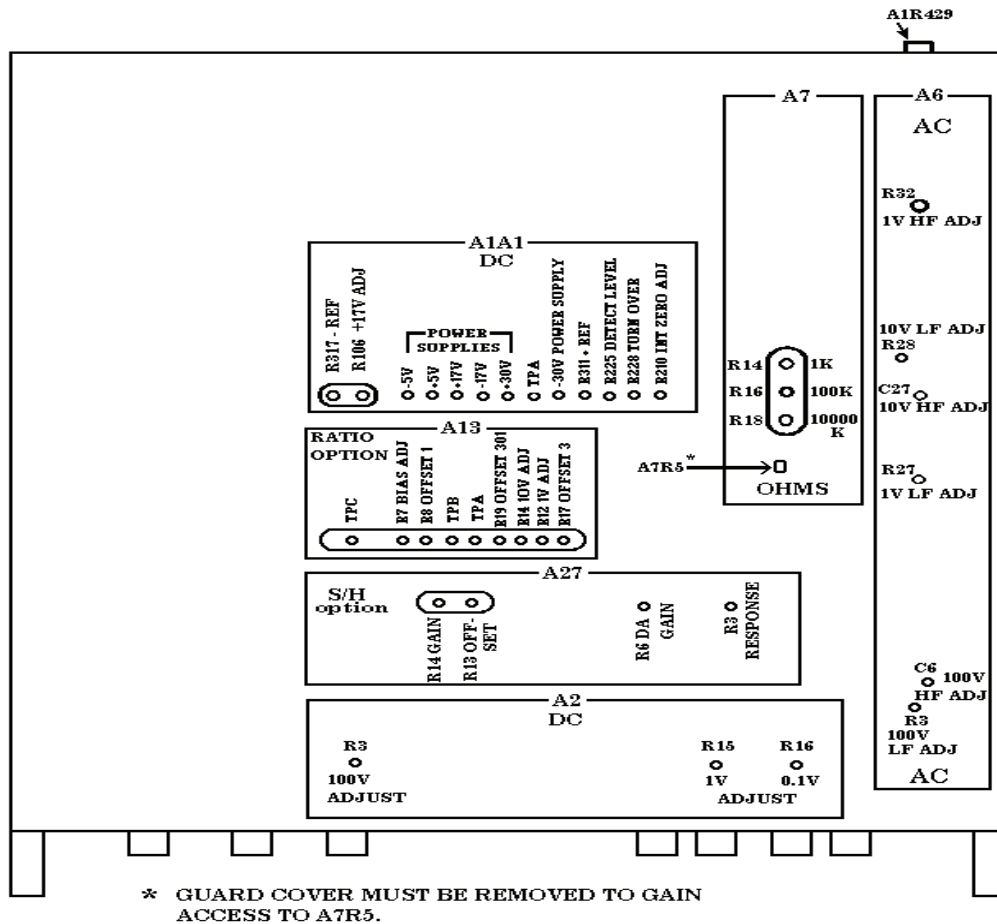

Figure 1. Top interior view - adjustment locations.
- d. Position TI controls as listed in (1) through (3) below:
- (1) **FUNCTION** switch to **DC**.
- (2) **RANGE** switch to **.1 V**.
- (3) Connect shorting link between **GUARD** and **LOW INPUT**.
- e. Short **INPUT** terminals. If necessary, adjust A1R429 (rear of TI) (fig. 1) for a  $0 \pm 0.000002$  indication. Remove short.
- (1) Connect multimeter between A1A1TPA (fig. 1) and **INPUT LOW** terminal.
- (2) Turn **SAMPLE RATE** control fully ccw to **HOLD** position.
- (3) Adjust A1A1R210 INT ZERO ADJ (fig. 1) for a  $0 \pm 150$   $\mu$ V dc indication on multimeter. Disconnect multimeter.
- (4) Set **FUNCTION** switch to **DC**, **RANGE** switch to **10V**, and **SAMPLE RATE** control to **FAST**.
- (5) Connect calibrator to TI **INPUT** terminals and adjust calibrator output for +1.0 mV dc.
- (6) Adjust A1A1R225 DETECT LEVEL (fig. 1) for a maximum reading on TI display. Note reading.
- (7) Reverse polarity of TI input and adjust A1A1R228 TURNOVER (fig. 1) for reading noted in (6) above. Continue reversing input polarity and adjusting A1A1R228 TURNOVER until both positive and negative readings are equal (R).
- (8) With 1.0 mV dc applied to TI, adjust A1A1R225 DETECT LEVEL (fig. 1) for a TI display of + 00.0010 (R).
- (9) Connect calibrator in reverse polarity to TI **INPUT**. Adjust calibrator output for a +10 V dc.
- (10) Adjust A1A1R311 +REF (fig. 1) for a +10.0000 V indication on TI (R).
- (11) Set **FUNCTION** switch to **TEST** and **RANGE** switch to **3**.
- (12) Adjust A1A1R317 -REF (fig. 1) for equal plus and minus indications ( $0.99995 \pm 1$  count). The last digit must be between 2 and 9 (R).
- (13) Set **FUNCTION** switch to **DC**, **RANGE** switch to **10V**, and repeat (9) through (12) above until tolerances listed in (10) and (12) above are met.
- (14) Adjust A2R15 1V ADJUST (fig. 1) for a 1.00000 V indication on TI (R).
- (15) Adjust A2R3 100 V ADJUST (fig. 1) for a 100.000 V indication on TI (R).
- (16) A2R16 0.1V ADJUST (fig. 1) for a -1000.00 indication on TI (plus or minus offset noted in 8 a (17) above) (R).
(1) Adjust A6R32 1V HF ADJ (fig. 1) for 1.00000 indication on TI (R).
(2) Adjust A6R27 1V LF ADJ (fig. 1) for 1.00000 indication on TI. Repeat **a (3)** and (4) above until indications are correct (R).
(3) Adjust A6R28 10V LF ADJ (fig. 1) for 10.0000 indication on TI (R).
(4) Adjust A6C27 10V HF ADJ (fig. 1) for 10.0000 indication on TI. Repeat **a (5)** and (6) above until indications are correct (R).
(5) Adjust A6R3 100V LF ADJ (fig. 1) for 100.000 indication on TI (R).
(6) Adjust A6C6 100V HF ADJ (fig. 1) for 100.000 indication on TI. Repeat **a (7)** and (8) above until indications are correct (R).